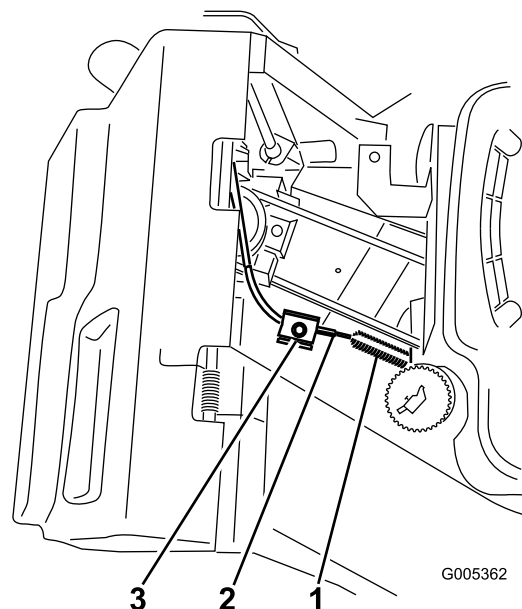

Figure 27
- Loosen the cable clamp screw until the brake cable conduit slides (Figure 27).